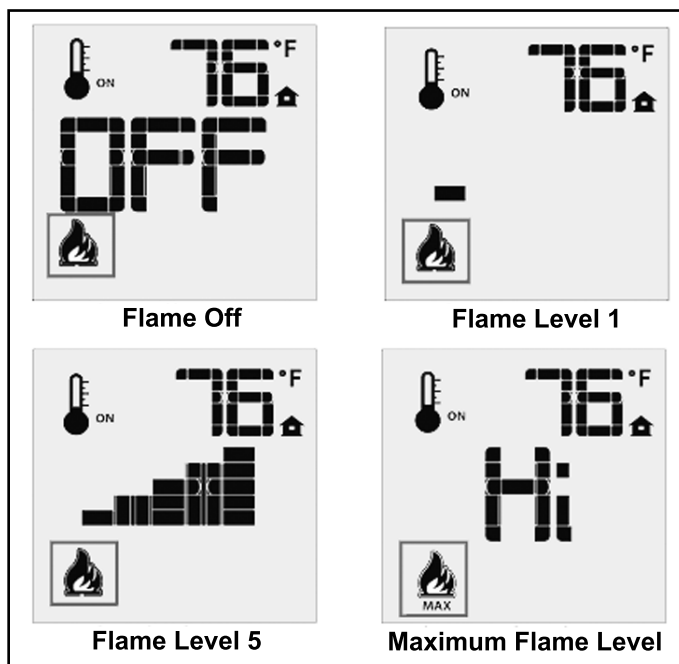

Figure 13: Remote Control's Flame Levels.
The Proflame GTMF has six (6) flame levels. With the system on, and the flame level at the maximum in the appliance, pressing the Down Arrow Key once will reduce the flame height by one step until the flame is turned off. The Up Arrow Key will increase the flame height each time it is pressed. If the Up Arrow Key is pressed while the system is on but the flame is off, the flame will come on in the high position (refer to Figure 13). A single “beep” will confirm reception of the command.